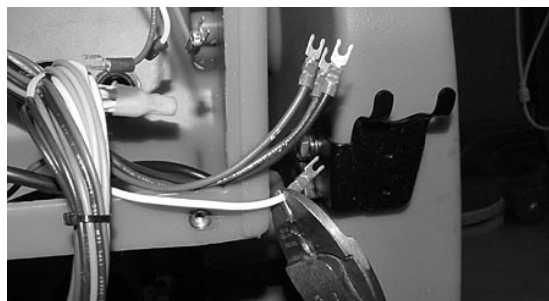

Fig. 3
4. Cut off the 7 wire terminals (Figure 3). Make cuts close to terminals. Then strip the wires about 1/4" (6.5mm).